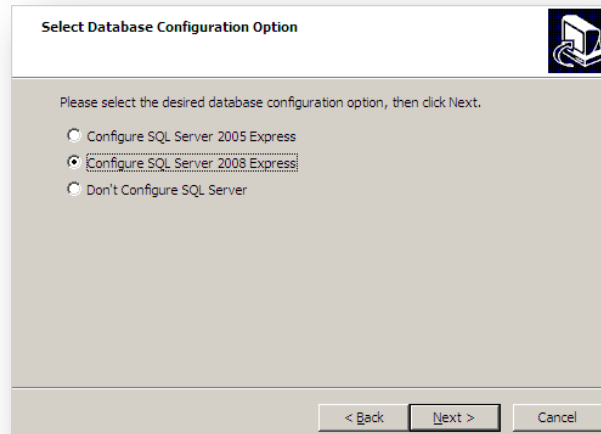

Figure 13 – Model 375 Web Page and Supervisor Service Selection screen 2
5. Click “Next” to accept the default database configuration selection. See Figure 13.